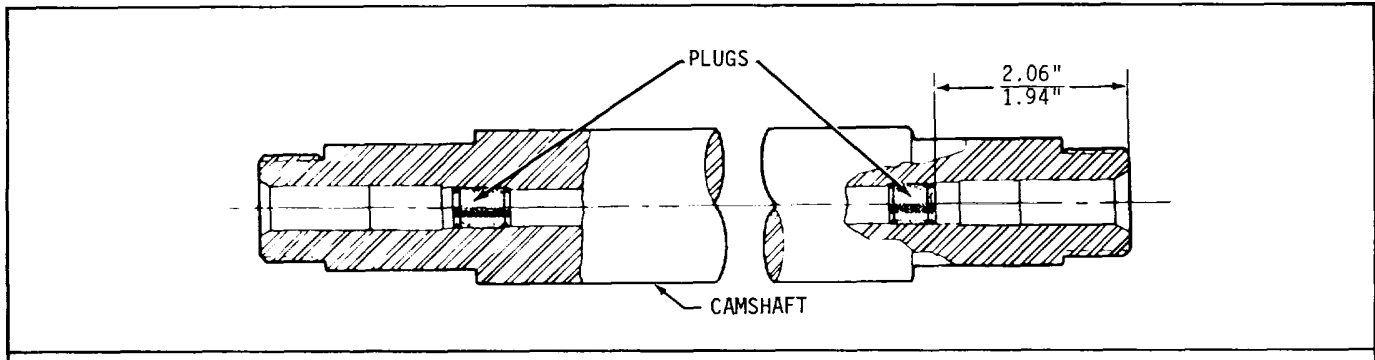

Fig. 12
- (1) Install new end plugs in the camshaft. Press the plugs in to a depth of 1.940" to 2.060" (Fig. 12).
- (2) Lubricate the rear camshaft and balance shaft bearing journals and slide the rear end bearings on each shaft, with the bolting flange of the bearing toward the outer (gear) end of the shaft.
- (3) Install the gears on the shafts.
- (4) Lubricate the camshaft intermediate bearing journals. Then place the two halves of each intermediate bearing on a camshaft journal and lock the halves together with two lock rings. Assemble each lock ring with the gap over the upper bearing and the ends an equal distance above the split line of the bearing.